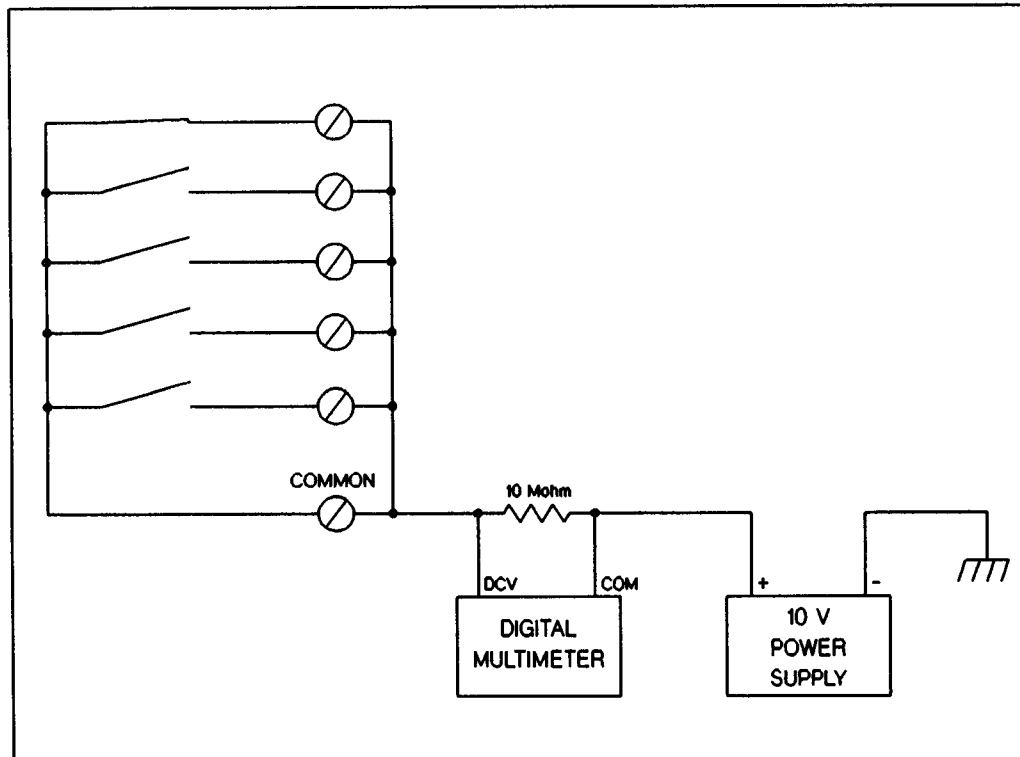
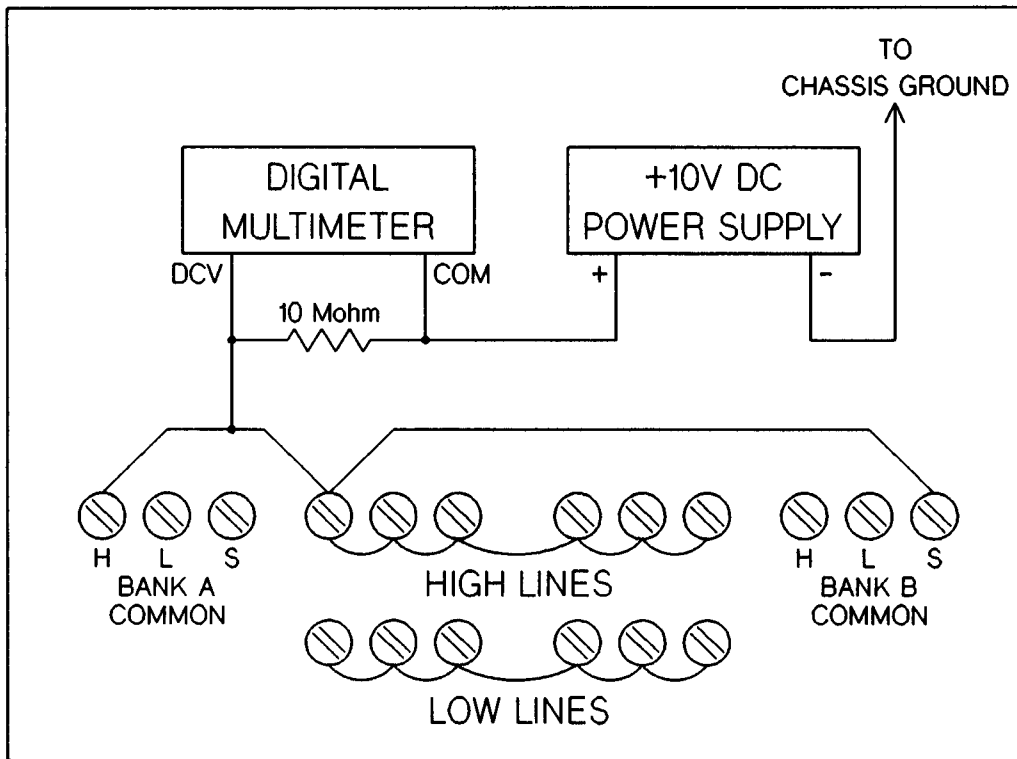

Figure 10-20 Closed Channel Leakage Test
Figure 10-21 HP 44711A Closed HIGH Channel Test Set-Up
14. CLOSED CHANNEL LEAKAGE/BIAS CURRENT TEST. This test checks each channel HIGH and LOW for leakage current when a channel is closed. A simplified schematic of the setup is shown in Figure 10-20 and the test setup for the HIGH lines is shown in Figure 10-21.